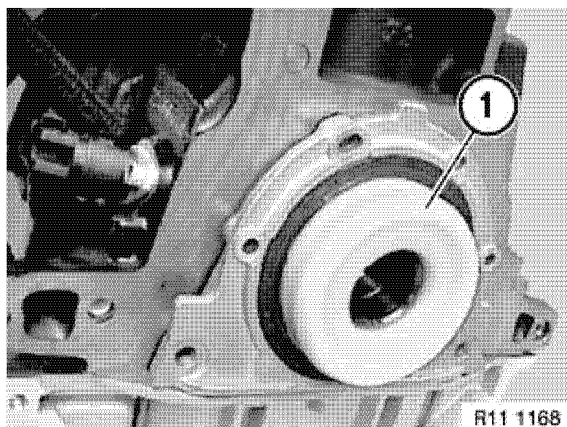

Figure 5-70
*Note: The rear crankshaft seal and housing are available only as an assembly. The seal has a protective bushing (1, **Figure 5-70**) installed and is to be used during installation. Use only the supplied bushing as an installation tool. Keep the bushing as a special tool for use in future service.*
6. Lubricate the crankshaft outside diameter. Push the seal housing squarely onto the crankshaft (**Figure 5-70**).